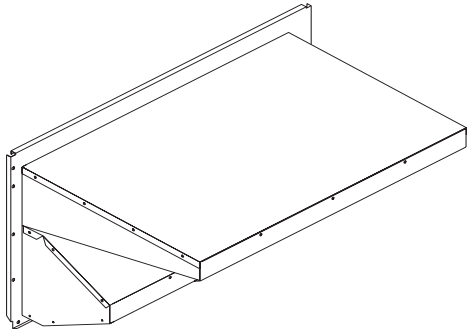

Fig. 26 — Completed Hood Assembly
- Slide the outdoor air inlet screens into the screen track on the hood side panels. While holding the screens in place, fasten the screen retainer to the hood using the screws provided. Repeat the process for the barometric exhaust air screen. *Do not attach completed (Fig. 26) hood assembly to unit at this time.*